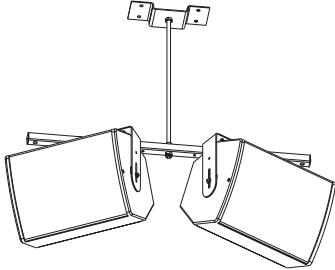

Fig. 1.
VCB2: The VCB2 cluster bar is available in both black and white finishes and provides a platform onto which 2 x Tannoy V6 loudspeakers can be mounted using the V6Y yoke bracket (not supplied in the VCB2 kit). A number of different loudspeaker arrangements can be made depending on the application and the coverage pattern required (see figures 1 & 2).
■ Fig. 1.
The VCS ceiling saddle available in both black and white finishes, and is to be used in conjunction with the V6Y, VCB2, VCB4 and a length of M10 threaded rod (not supplied by Tannoy Limited). The VCS ceiling saddle allows the Tannoy V6 loudspeaker to be suspended at a user defined distance from the ceiling as shown in Figure 1.